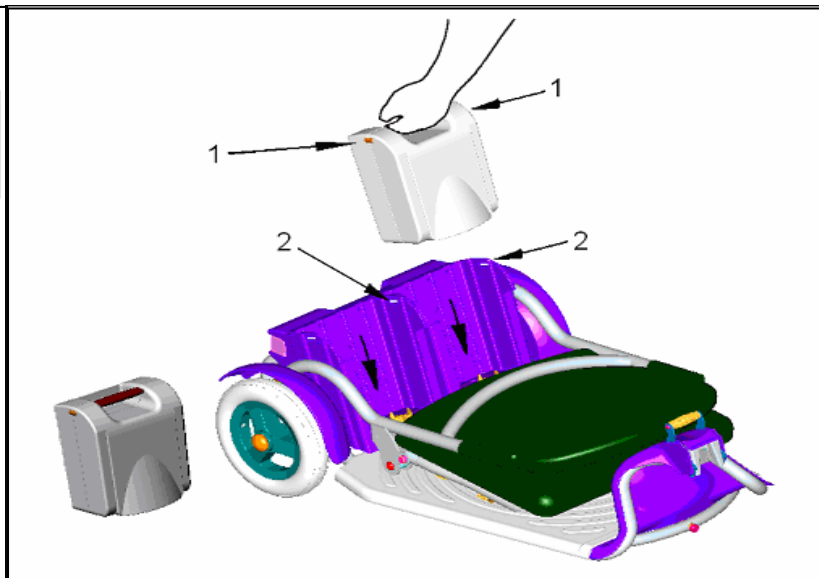

Fig 4
- Fit the batteries by lowering them gently down into their locations at the rear of the scooter (see fig 4). Again the electrical connections are made automatically.